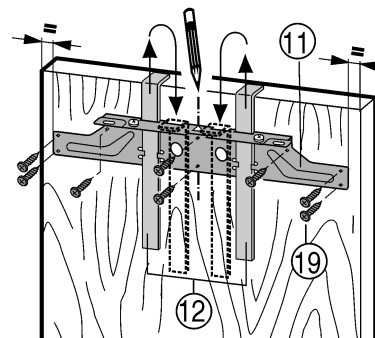

Fig. 18
- ▶ Hang the crosspiece Fig. 18 (11) on the inside of the unit door using the fitting aids Fig. 18 (12). With a 23-5/8 " (600 mm) wide recess:
- ▶ Align the crosspiece Fig. 18 (11) to the middle of the door.
- ▶ Secure the crosspiece Fig. 18 (11) with at least 6 screws Fig. 18 (19).
- ▶ Secure the crosspiece Fig. 18 (11) with 4 screws Fig. 18 (19) at the edge.
- ▶ Lift up fitting aids Fig. 18 (12), turn round and insert into the adjacent openings.